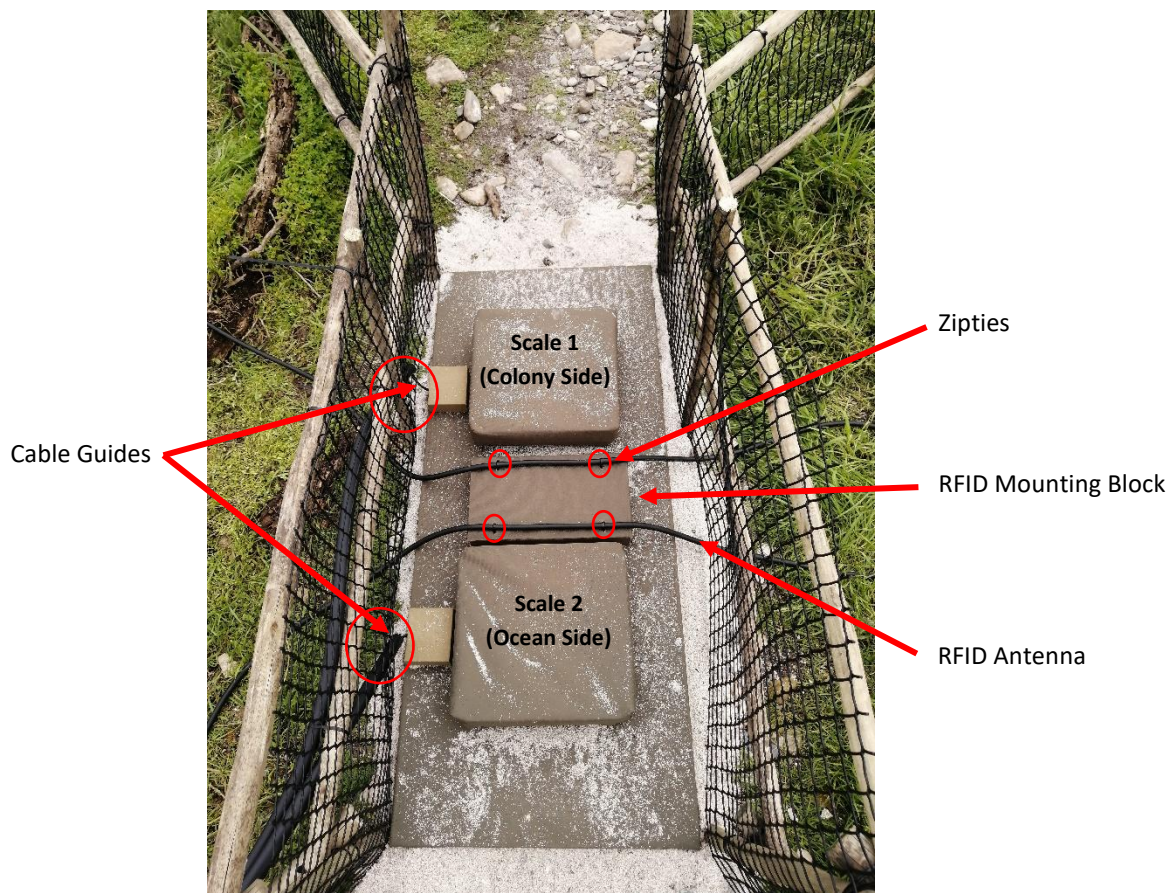

Figure 16 - Robben Island Scales Platform
- See FIGURE 16 - ROBBEN ISLAND SCALES PLATFORM for a completed platform in the field